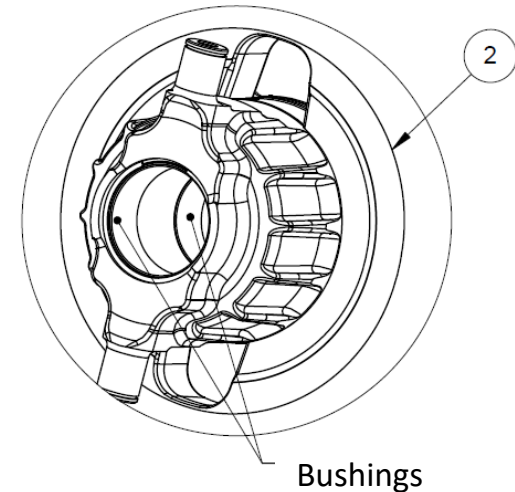

Figure 24
- Check for wear marks on the forward ramps (10) and rear ramps (11).
- Check for wear marks on the spring (6).
- Check the wear of the sliding sheave (2) bushings (visual inspection only, figure 24). If there is excessive wear, you must replace the whole sheave assembly (2).
The bushings cannot be removed from the sliding sheave (2) (figure 24).